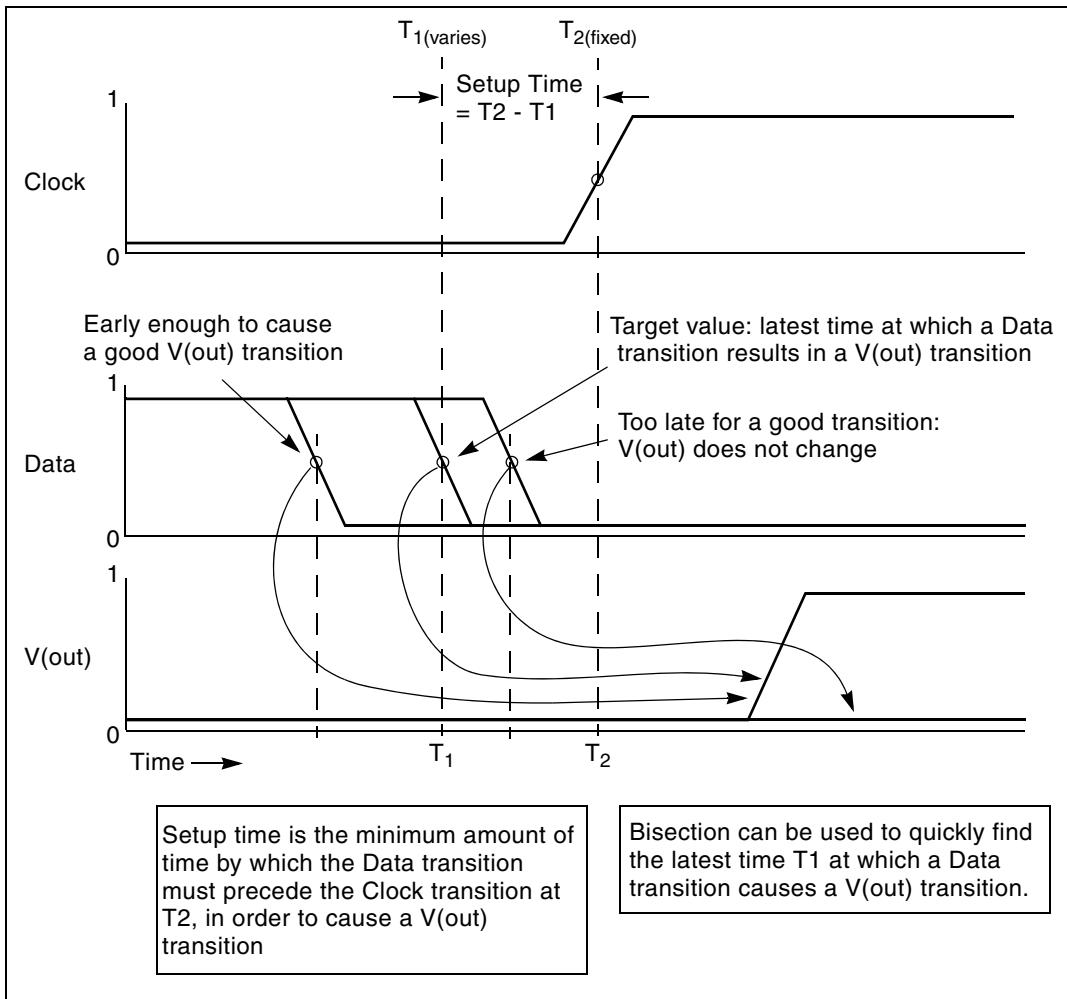
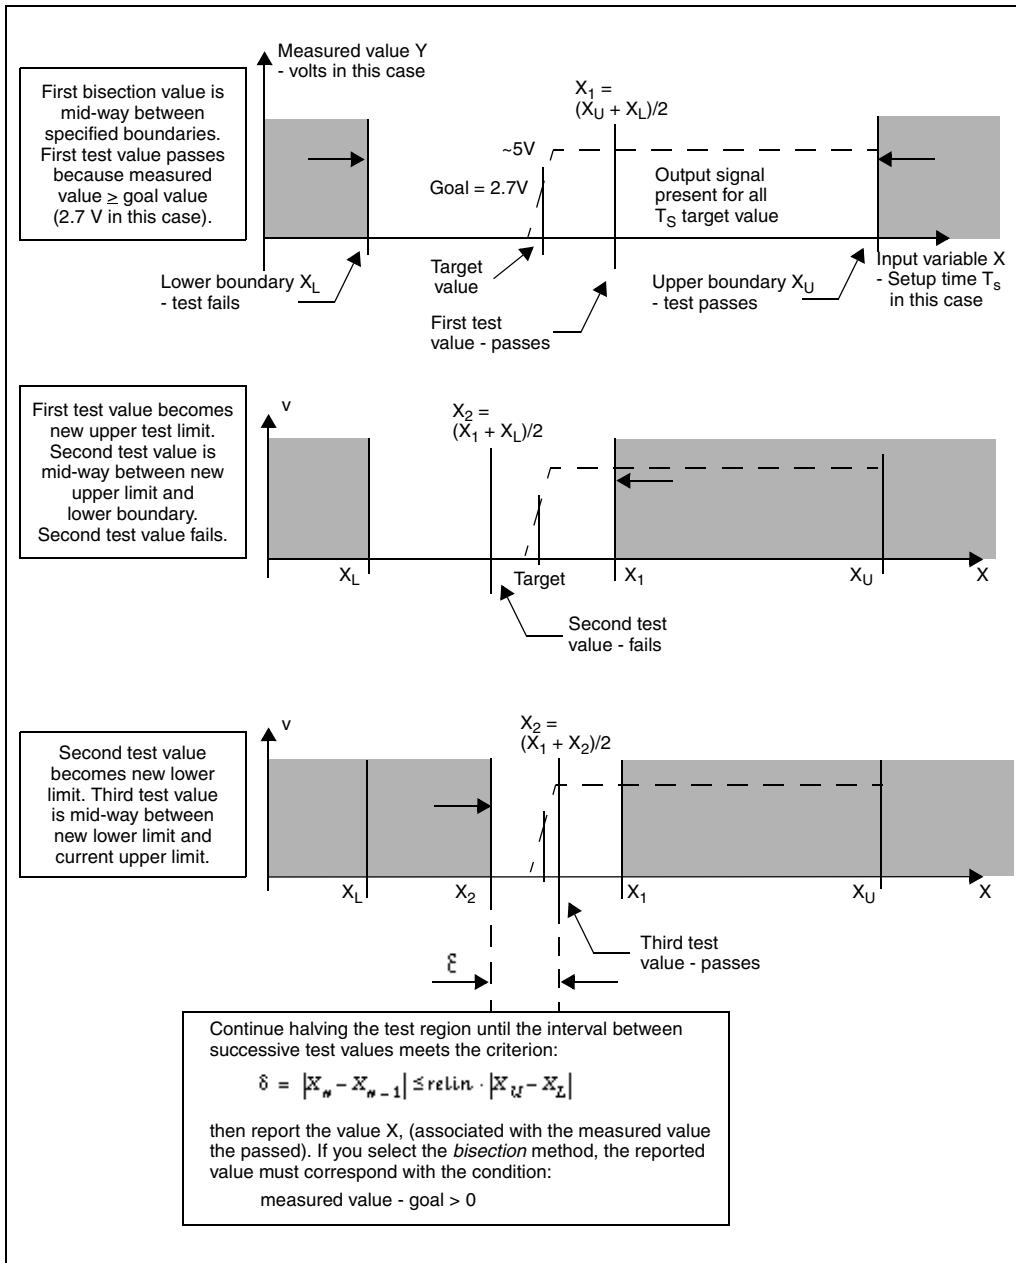

Figure 112 Determining Setup Time with Bisection Violation Analysis
Figure 113 Bisection Example for Three Iterations
Figure 112 on page 628 shows a typical analysis of setup-time constraints. Clock and data input waveforms drive a cell. Two input transitions (rise and fall) occur at times T_1 and T_2 . The result is an output transition, when $V(\text{out})$ changes from low to high. The following relationship between the $T_1(\text{data})$ and T_2 (clock) times must be true for the $V(\text{out})$ transition to occur: $T_2 > (T_1 + \text{setup time})$.
- Automatically varying the input parameter (T_1 in Figure 112 on page 628) to find the value for which the transition barely occurs.
Figure 113 on page 635 shows an example of the binary search process that the bisection algorithm uses. This example is the pass/fail type, and is appropriate for a setup-time analysis that tests for the presence of an output transition. In the example depicted in Figure 112 on page 628 note that:
4. The bisection algorithm performs tests for each specified boundary value to determine the direction in which to pursue the target value, after the first bisection. In this example shown in Figure 112 on page 628, the upper boundary has a pass value and the lower boundary has a fail value.
5. To start the binary search you specify the lower and upper boundaries. The program tests the point midway between the lower and upper boundaries (see Figure 113 on page 635).
Figure 113 on page 635 and Figure 114 on page 636 show the results of this demo. HSPICE or HSPICE RF does not directly optimize the setup time, but extracts it from its relationship with the `DelayTime` parameter (the time before the data signal), which is the parameter to optimize.